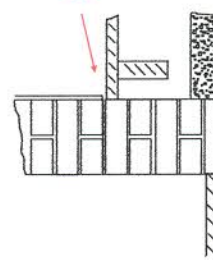

Figure 3: Internal Drilling
B. If the floor construction is a suspended timber floor, drill internally as low as possible or externally 150mm above ground level (see Figs. 3 and 4).